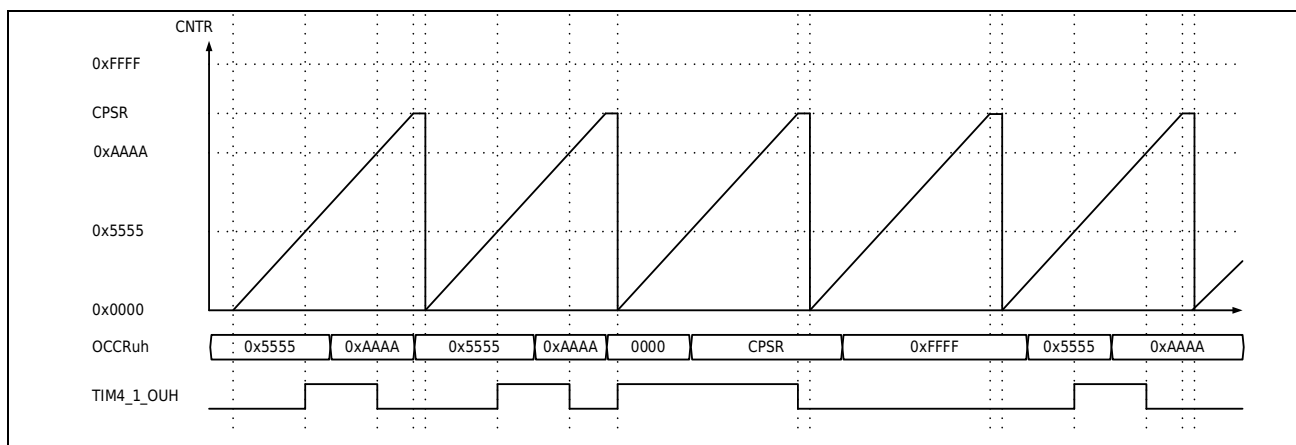

Figure 21-6 Waveform Output Instance in Sawtooth Mode
- 1) The following Figure 21-6 is an instance of the waveform output of the comparison output module in sawtooth wave count mode.